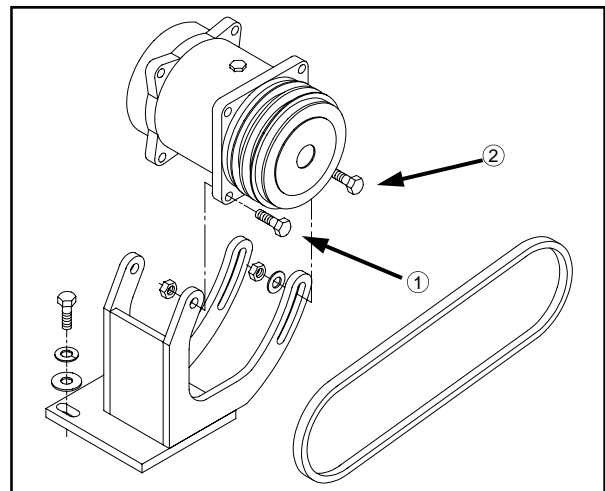

FIG 8.44
To tighten air conditioner compressor belt, loosen the two pivot bolts (fig. 8.44, item 1) and the two slide bolts (fig. 8.44, item 2). Using a suitable prying tool, adjust tension on belt to desired tautness. While maintaining tension, re-tighten all four bolts. Inspect belt every 250 hours.